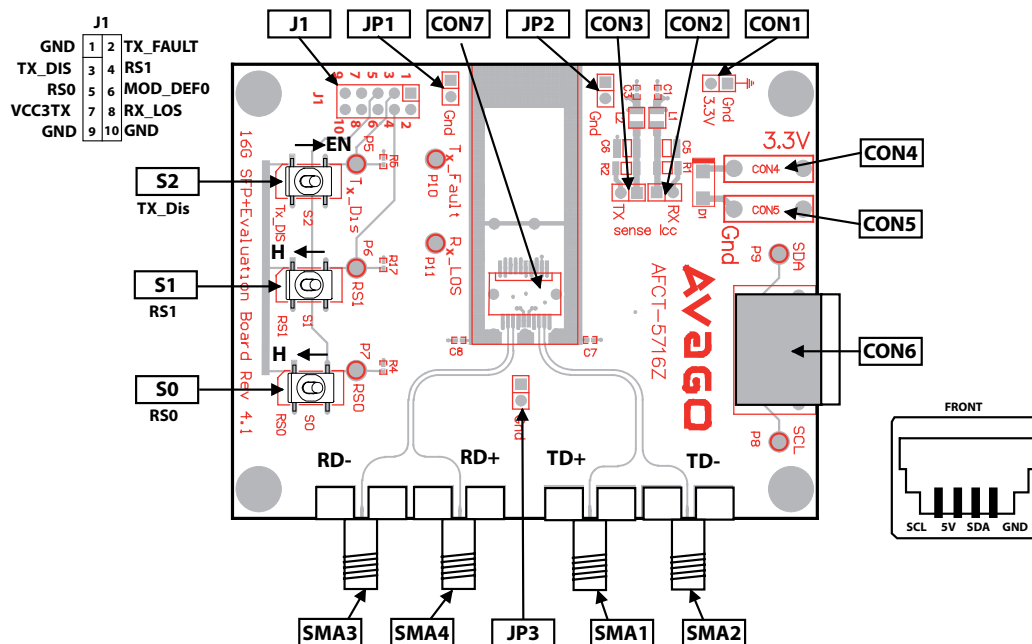

Figure 1. SFP+ Evaluation Board Top Views
The top view of the evaluation PCB is shown in Figure 1. RS0, RS1 and TX_Dis can be controlled with on board toggle switches S0, S1 and S2. P5~P11 provide probing points to monitor low speed control i/o signals. Apply 3.3 V power supply to CON4 with CON5 GND. CON2 and CON3 can be used to monitor the current to the SFP+ module's RXVCC and TXVCC supplies respectively. Measure the voltages and divide by 0.05 Ω sensing
The SFP+ MSA specifies an EEPROM internal to the transceiver. The standard two-wire serial protocol can be implemented to allow the user to read/write the user accessible area in the EEPROM by using the MOD_DEF(1), MOD_DEF(2) and GND connections on the Evaluation board. MOD_DEF(1) and MOD_DEF(2) are equal to SCL and SDA respectively as shown in the Figure 1 connector illustration. SFP viewer provided in this evaluation kit can be used to control SFP transceiver. Please refer to the documentation included in the CD-ROM for the use of GUI.